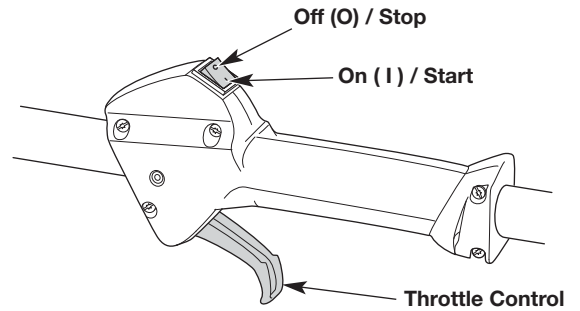

Fig. 9
**NOTE:** There is no need to turn the unit on. The On/Off switch is in the ON (1) position at all times (Fig. 9).
5. Squeeze and hold the throttle control (Fig. 9).
2. Press and hold the On/Off switch in the OFF (O) position until the engine comes to a complete stop (Fig. 9).
- NOTE:** There is no need to turn the unit on. The On/Off switch is in the ON (I) position at all times (Fig. 9).
6. Squeeze and hold the throttle control (Fig. 9).